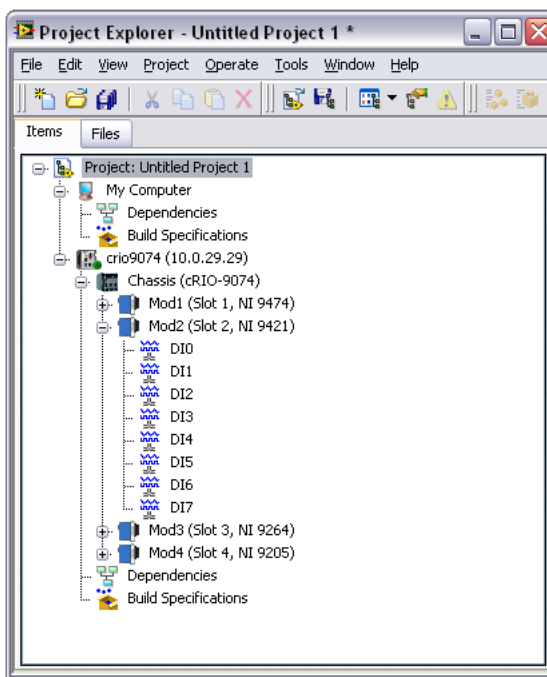

Figure 1. Project Explorer Window with Modules in Scan Interface Mode
10. Click **Discover** in the **Discover C Series Modules?** dialog box if it appears. The Project Explorer window should look similar to Figure 1.